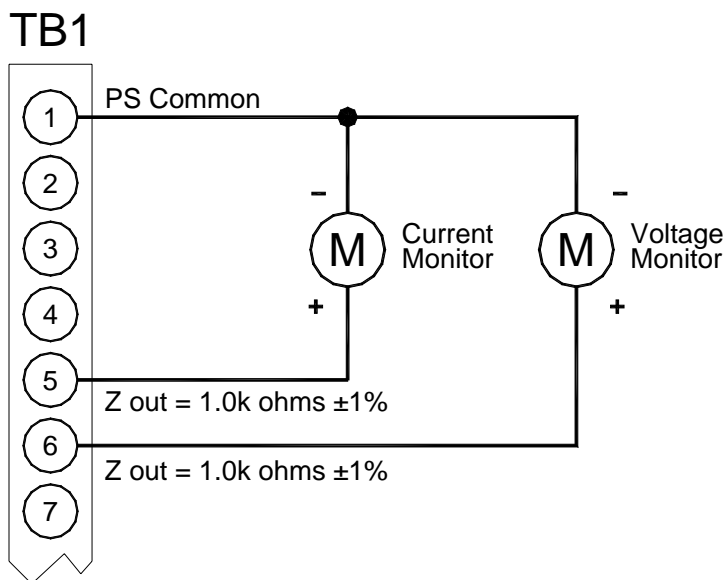

Figure 3.3 Remote Monitor Test Point Designations
REMOTE MONITOR: Test points are made available on the rear of the chassis for monitoring the voltage and current output. (Output power monitor is included with the CPC and APT option). The test points are always positive regardless of the output polarity, where zero (0) to ten (10) volts equals 0-100% of output $\pm 0.5\%$. Test points have an output impedance of 1k ohms. See Figure 3.3 for test point designation.